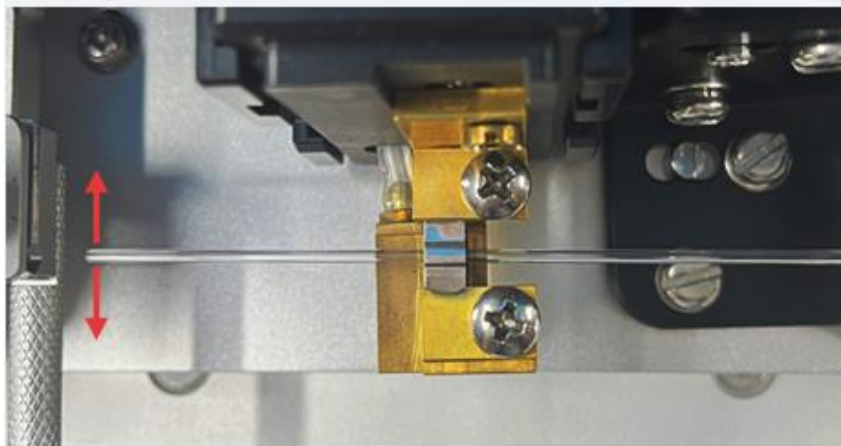

Figure 6-7
- 8) Slide the glass to the left edge of the filament and extend out as much as possible. Hold the left end of the glass and gently swing it back and forth to finely position the filament centered over air jet opening and around the glass, as shown in Figure 6-7.